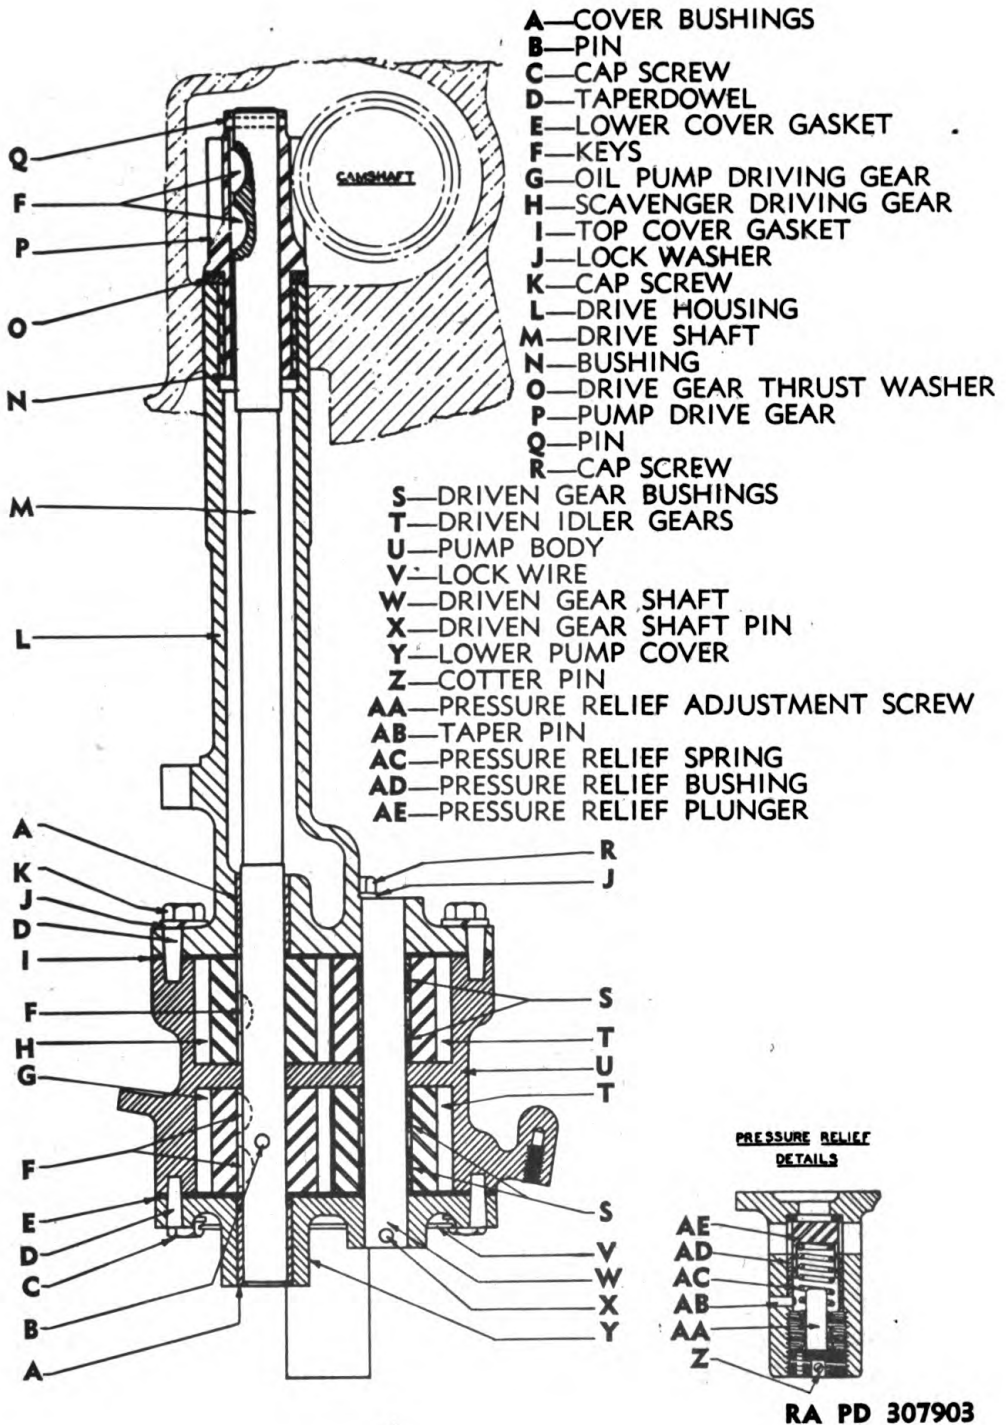

Figure 96 — Oil Pump — Sectional View
(2) **INSTALL TOP COVER PLATE AND SHAFT HOUSING.** Tap the two tapered dowels (fig. 96) into top cover plate if they were removed. Place new gasket on pump body and slide the cover and shaft housing down over the upper end of the shaft, being careful of the bushing pressed into housing. Before tapping top cover plate tightly against pump body, insert the scavenger idler gear shaft (end with hole down) up through housing and scavenger idler gear and into cover. After idler gear shaft is installed, tap top cover plate into position with dowels in cover plate entering holes in pump body. Install eight cap screws with lock washers in cover and body. Tighten cap screws evenly to prevent distortion of casting. Peen edges of dowel holes over dowels.
(5) **INSTALL RELIEF VALVE ASSEMBLY** (fig. 96). Make sure the valve seat and bushing surfaces as well as the valve plunger are clean. Coat parts with a light film of oil. Insert valve and spring and adjusting screw and turn down screw. Approximately 55 pounds pressure should be necessary to force plunger off its seat and uncover the relief vent. This setting will be obtained by turning adjusting screw into housing until $3\frac{1}{2}$ of the internal threads are exposed, however, if test equipment is available it should be used for a more accurate setting. After setting the adjusting screw, insert cotter pin through slot of screw. If the taper pin holding the bushing has been removed, be careful when replacing it not to distort, or damage, the bushing, as this will cause the plunger to bind, and it will not yield to the proper pressure.